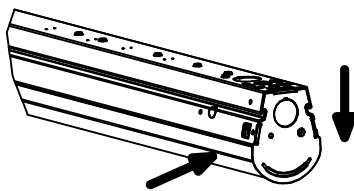
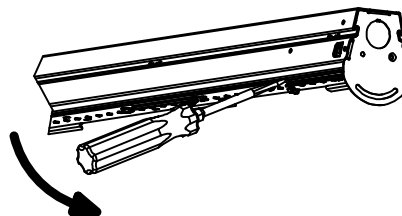

FIGURE 5: REMOVING LENS
FIGURE 6: REMOVING THE 4' LED BOARD
- E. For "continuous row mounting" refer to "CONNECTING LUMINAIRES FOR ROW MOUNTING": follow steps A, B and C above for each luminaire. A customer supplied chase nipple and lock nut should be inserted into the knockout hole on each end of the adjoining fixtures as shown in Fig 6.
To remove lens from housing, push side of lens until the opposite side of lens protrudes from housing. Then pull protruding lens downward until removed as shown in Figure 5. This should be applied down the length of the fixture. To remove the LED board, start on one end of housing using a flat head screw driver in the slots provided as shown in Figure 6. **IMPORTANT:** Make sure to apply a force parallel to board to reduce the risk of damaging the board.
- 2) Remove joining end caps by spreading channel open and sliding endcap off. Then remove KOs and secure the endcaps together with customer supplied (2) #8 screws and (1) 1/2" chase nipple to create joiner as shown in FIG 6.